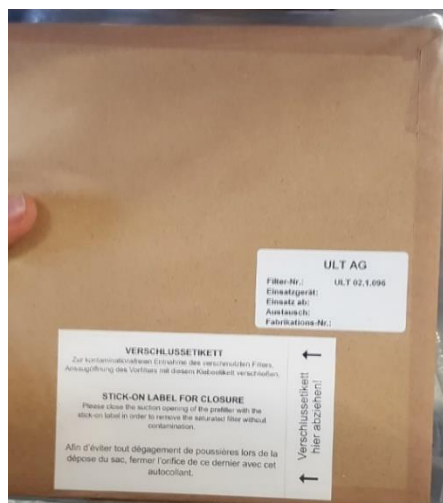

Fig. 131 Protective sticker
6. To prevent dirt from escaping from the filter being replaced, peel off the white protective sticker on the new pre-filter and use it to cover the inlet of the replaced filter (Fig. 131).